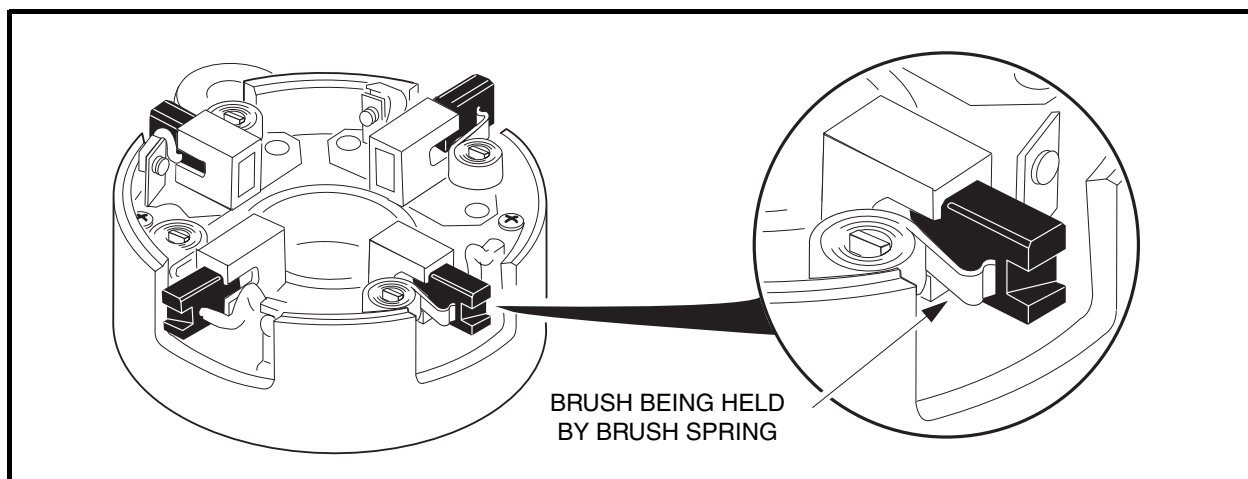

Figure 12-6 Pull Brushes Away from Center of the Commutator End Cover
NOTE: If the brushes are not removed, contact between the brushes and commutator as the commutator end cover is being removed or installed could damage the brushes. Lift the brush springs out of the notches in the brushes and pull the brushes back from the center of the commutator end cover. The springs will rest on the sides of the brushes and help prevent them from sliding towards the center of the cover (Figure 12-6, Page 12-4).
2. To prevent contact between the brushes and commutator as the commutator is installed, and possible damage to the brushes, lift the brush springs out of the notches in the brushes and pull the brushes back from the center of the commutator end cover. The springs will rest on the sides of the brushes and help prevent them from sliding towards the center of the cover **(Figure 12-6, Page 12-4)**.
- 1.1. Lift the brush springs out of the notches in the brushes and pull the brushes back from the center of the commutator end cover. The springs will rest on the sides of the brushes and help prevent them from sliding towards the center of the cover **(Figure 12-6, Page 12-4)**.
8. To prevent contact between the brushes and commutator as the commutator cover is installed, and possible damage to the brushes, lift the brush springs out of the notches in the brushes and pull the brushes back from the center of the commutator end cover. The springs will rest on the sides of the brushes and help prevent them from sliding towards the center of the cover (**Figure 12-6, Page 12-4**).